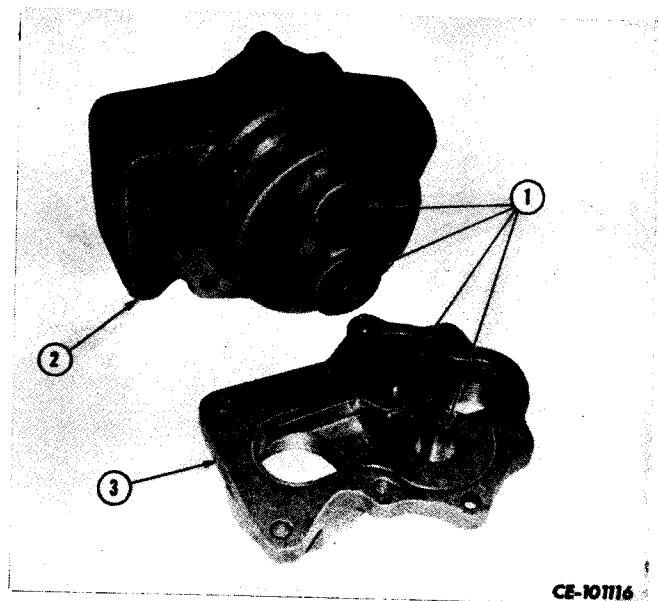

Figure 3-65
Pull bushings (1, Fig. 3-65) from cover (3) and pump body (2) if worn or damaged.
Press new bushings (1, Fig. 3-65) into cover (3) and pump body (2) if they were removed.